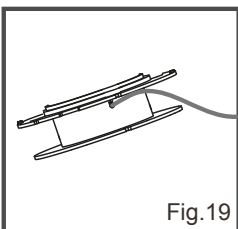

Fig. 19
Line Replacement (See Figs. 19 & 20)
- Insert the line into one of the two anchor holes found on the inside upper collar of the spool. Wind the line onto the spool. Ensure the line is wound in the direction indicated by the arrows on the spool (Fig. 19).